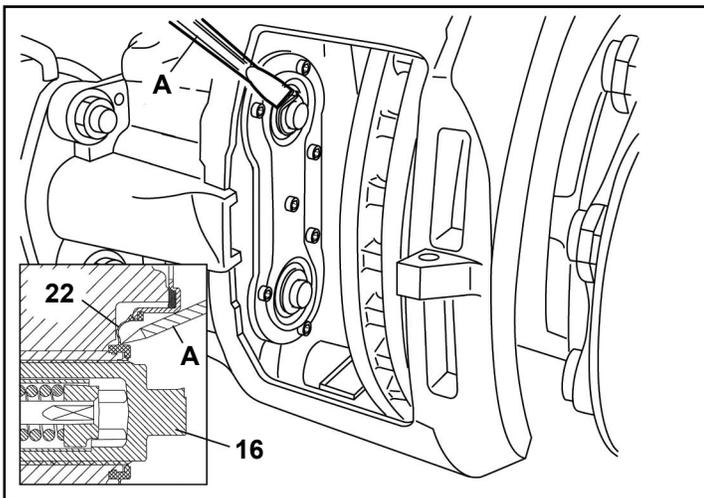
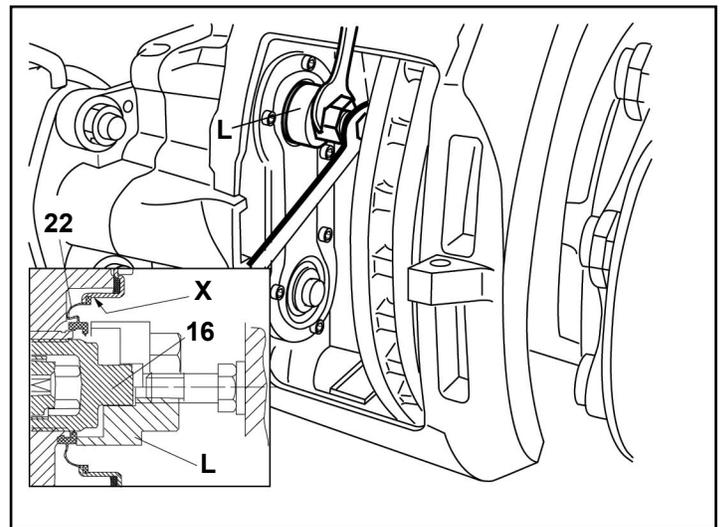

FIGURE 9 - INNER SEAL REMOVAL
FIGURE 10 - ON-VEHICLE INNER SEAL INSTALLATION
Carefully remove the inner seal with a flat-blade screwdriver (A) as shown in Figure 9. Caution: Take care not to damage the sealing face (X in Figure 10), as well as the threaded tubes. Damage to either of these will require that the brake be replaced.
For installations where the caliper is on the axle: Remove the tappet bushing. Position the L (T3 + T9, part number Z004361) with the short spacer (T3) in position as shown in Figure 10. Guide the tool over the end of the threaded tube (16). Fully press the inner seal (22) into position by rotating the adjuster nut using an open-ended wrench.